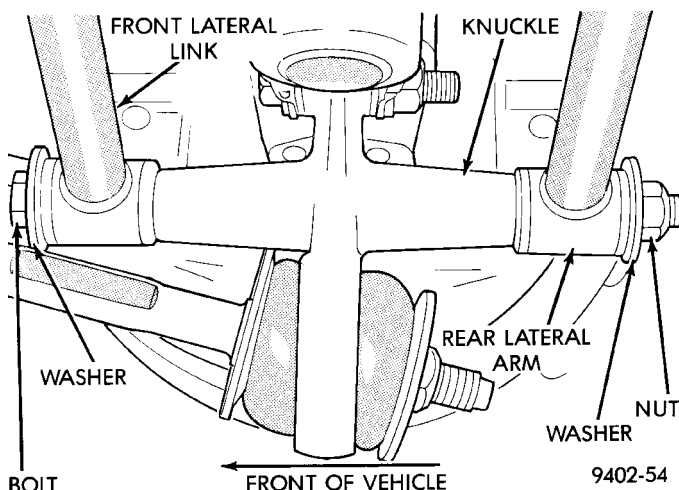

Fig. 22 Lateral Link Attachment To Knuckle
(1) Raise vehicle on jackstands or centered on a frame contact type hoist. See Hoisting in the Lubrication and Maintenance section of this manual, for the required lifting procedure to be used for this vehicle.
(2) Remove the rear wheel and tire assembly from the side of the vehicle requiring lateral link removal.
(3) Remove the nut, bolt and washers attaching the lateral links to the knuckle (Fig. 22).
(1) Install washer on short lateral link attaching bolt. Then install short lateral link attaching bolt, into lateral link having the same size bushing sleeves. Then install lateral link, bolt and washer onto knuckle as an assembly, with head of bolt facing to front of vehicle (Fig. 22).
(2) Install lateral link with small and large bushing sleeve, on lateral link attaching bolt in rear knuckle (Fig. 22). **Small bushing sleeve must be installed on bolt in rear knuckle with large bushing sleeve at crossmember of vehicle.**
(3) Install washer and nut onto lateral link attaching bolt at rear knuckle (Fig. 22). **Do not tighten the lateral link to rear knuckle attaching bolt at this time.**